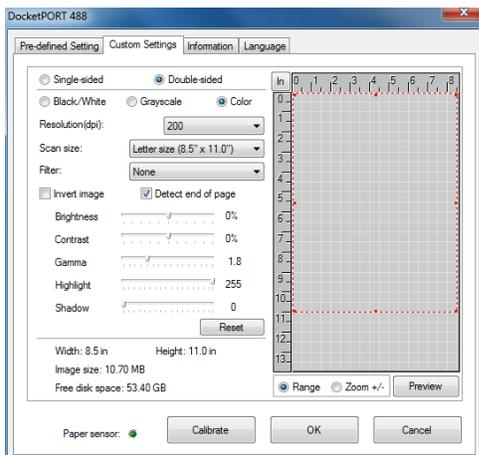

Fig. 1
- b. Click on “Custom” button and the TWAIN user interface appears (Fig. 1).